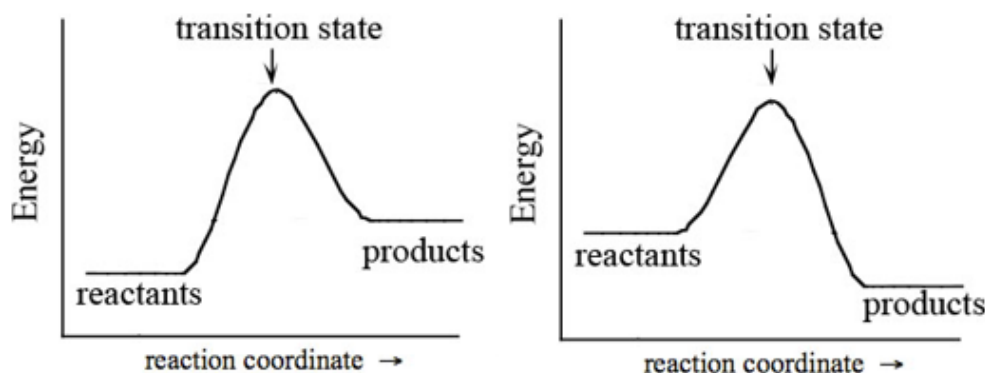

Figure 2: Reaction Progress Diagrams for Single-Step Endothermic (Left) and Exothermic (Right) Reactions
In every chemical reaction, the reactants must overcome an energy barrier in order to react. This energy barrier is called the activation energy and is abbreviated E_a . Shown in Figure 2 are two reaction progress diagrams. The energy of the chemical species as the reaction progresses is traced on the y -axis. The reactants must gain energy to reach the transition state, after which it is possible for the reactants to be converted to products. Both the activation energy and the net change in energy can be deduced from Figure 2.
1. In Figure 2, which reaction requires more energy to reach the transition state? Recreate the diagrams in your notebook. On each diagram, draw a line indicating where you measured this energy, in order to make the comparison. This energy is called the activation energy, E_a , and it represents the energy barrier between reactants and products.
2. Which reaction in Figure 2 do you think would be faster—one with a larger energy barrier or one with a smaller energy barrier? Explain why you think so. Given this, which reaction profile corresponds to a faster reaction, and which corresponds to a slower reaction?